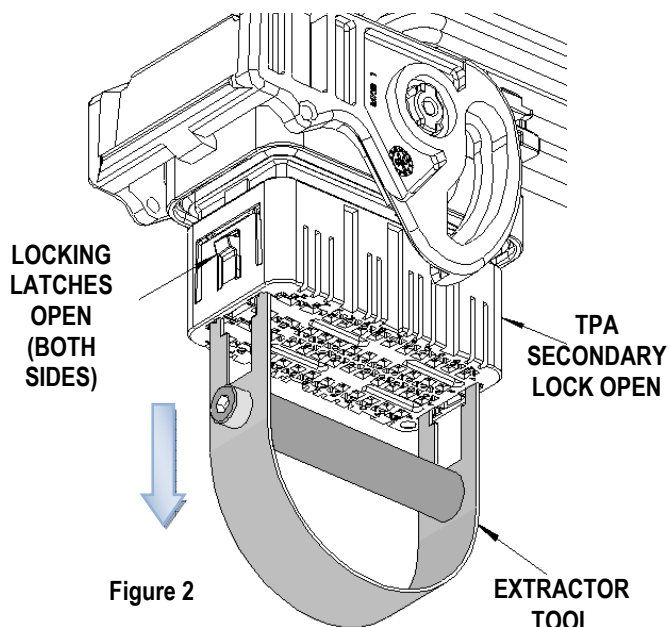

Figure 2
2. While keeping the extractor tool in this position pull down on the (TPA) secondary lock. The locking latches should be visible. See Figure 2.